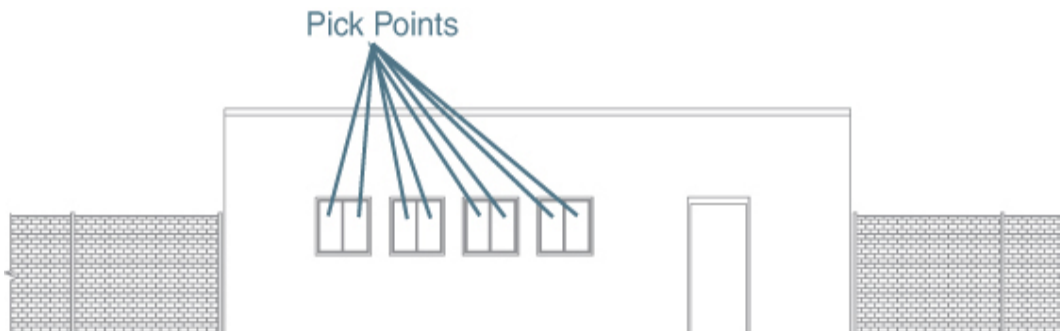

Figure 10-23
- 2** Start the **GRADIENT** command, and pick the points inside the eight window panes shown in Figure 10-23.